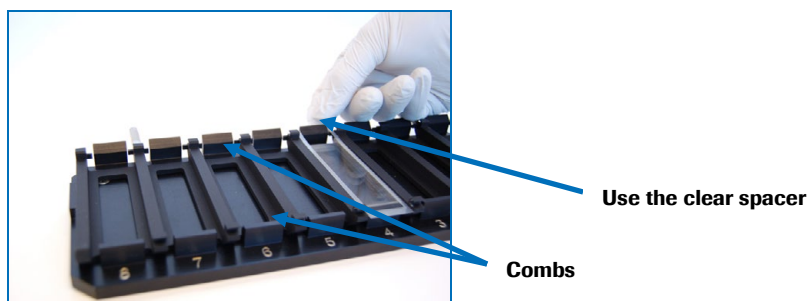

Figure 7. Hook the Spacer
7. Hook the ends of the clear spacer around the combs of the Mounting Plate (Figure 7). The combs are at the lips at the top and bottom plate.